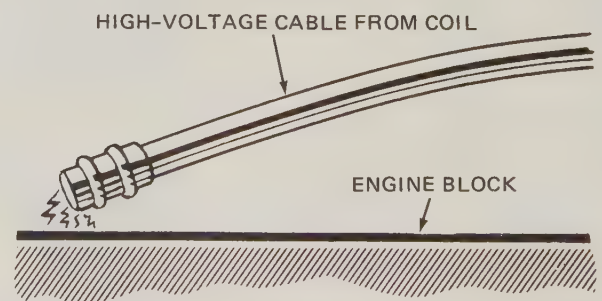

FIG. 26-34 Make a spark test by holding the high-voltage cable about  $\frac{3}{16}$  inch [5 mm] from the engine block.
**Engine Cranks Normally but Will Not Start** If the engine can be cranked at normal cranking speed but will not start, the trouble is probably in the ignition system or the fuel system. First, test the ignition system by trying the spark test. Disconnect the lead from one spark plug. Hold the lead clip about  $\frac{3}{16}$  inch [5 mm] from the engine block while cranking the engine, as shown in Fig. 26-34. Another way is to pull the lead from the center terminal of the distributor cap and hold it close to the engine block. If a good spark jumps to the block, the chances are that the primary and secondary circuits are in good condition. These circuits must both function normally to produce a good spark. If they do, then failure to start could be due to badly fouled spark plugs or out-of-time ignition. However, many other conditions including faulty fuel-system action, malfunctioning valves, and loss of engine compression could prevent normal starting. Failure to start with normal cranking usually is due to trouble in the ignition or fuel system.